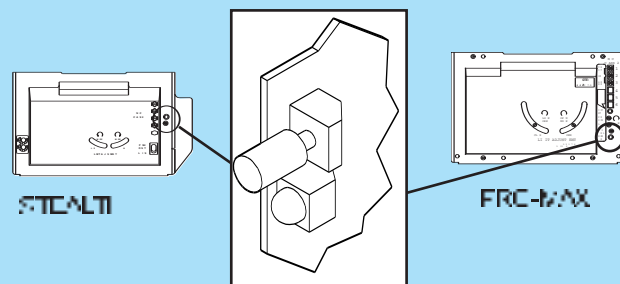

Fig. 9-1
1. Program one-button remote (Fig. 9-1)